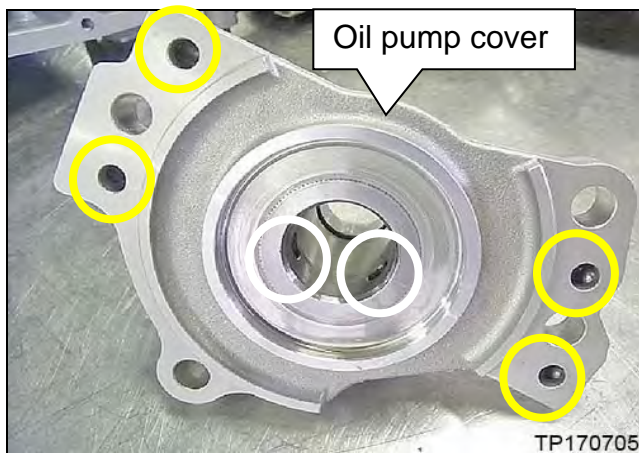

Figure 11L
- d. Spray brake cleaner into the oil pump cover oil passages indicated in yellow shown in Figure 11L.
CAUTION: Do not face the passage indicated in white in Figures 11L and 12L while cleaning.